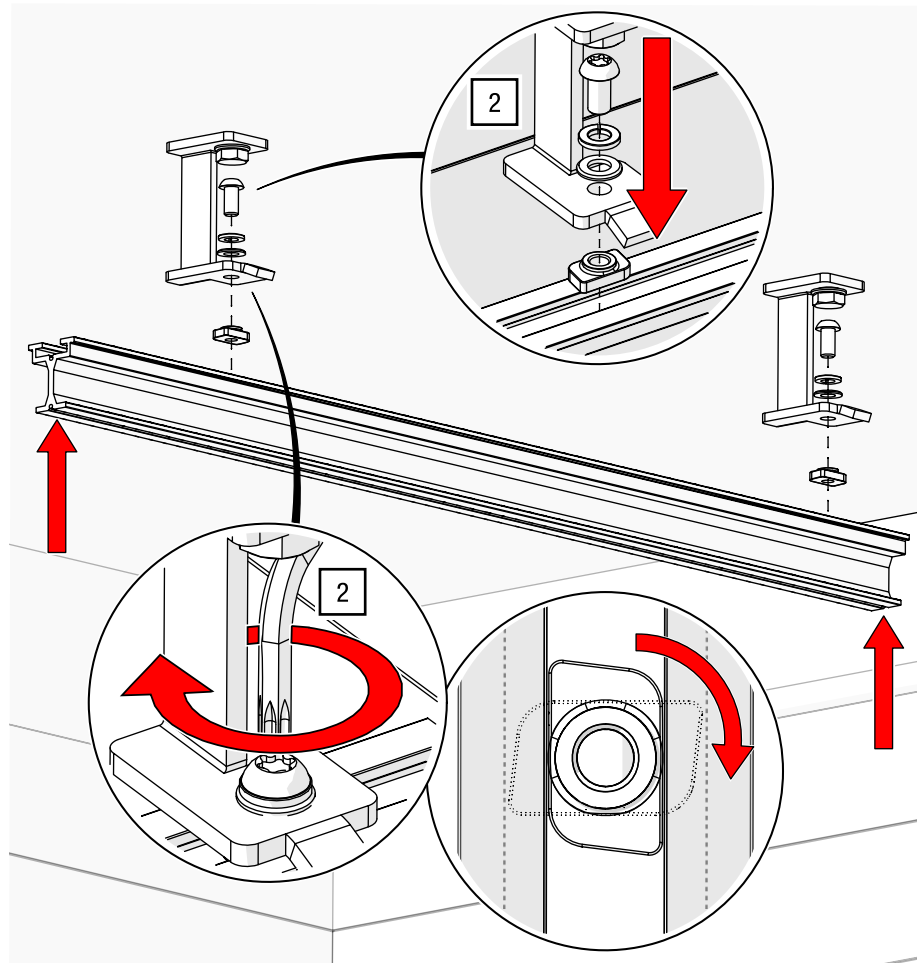

Fig. 62: Suspension for cord operation – Screw on the track
2. Place the slot nut in the TRUMPF 95 track profile and fix the track to the suspension using a TORX®-key T40 (top cord operation – Allen key AF 5) and 27 Nm (see Fig. 62).